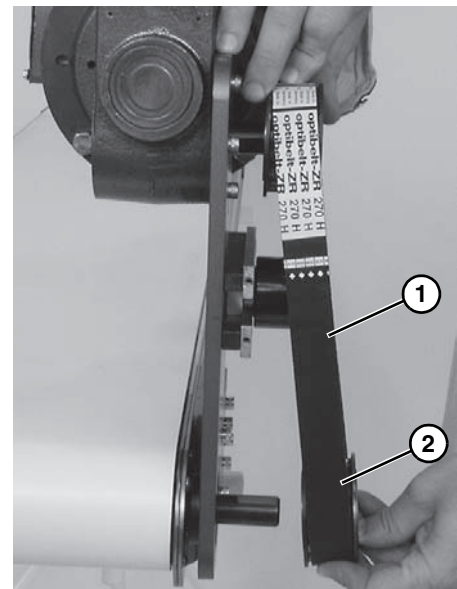

Figure 13
3. Remove timing belt (**Figure 13, item 1**).
If timing belt does not slide over pulley flange, loosen driven pulley taper-lock screws (Figure 13, item 2) and remove pulley with belt (Figure 13, item 1). For re-installation, see steps 6 through 8 on page 7.